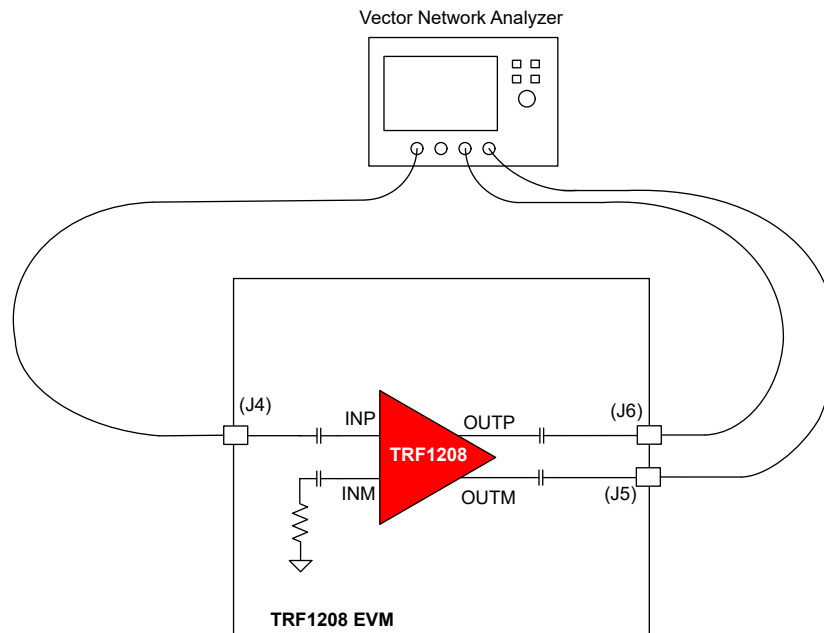

Figure 3-1. S-Parameter Test Setup
1. As Figure 3-1 shows, the S-parameter measurement is typically done using a Vector Network Analyzer (VNA). For measuring the TRF1208 EVM, a 3-port VNA is recommended which can generate single-ended and receive differential signals at the input and output ports of EVM respectively.